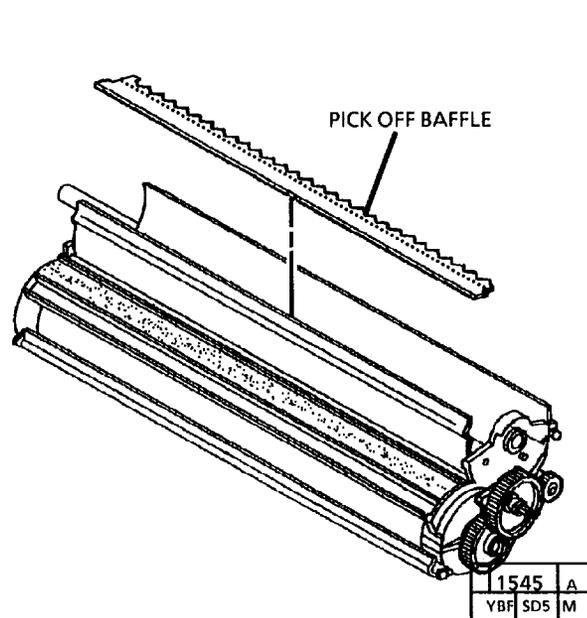

Figure 1. Remove the Pick Off Baffle
4. (FIGURE 1): REMOVE THE PICKOFF BAFFLE.